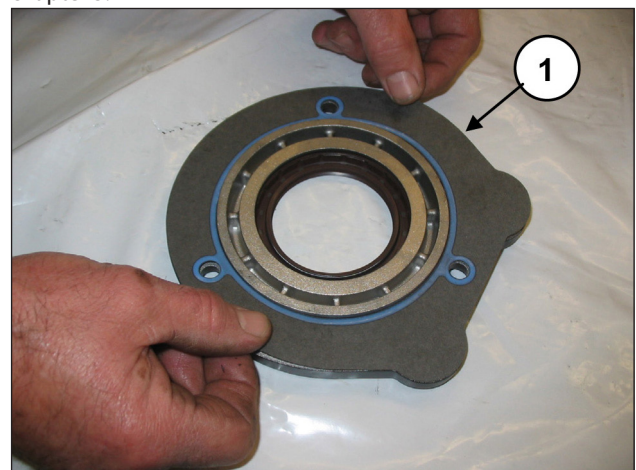
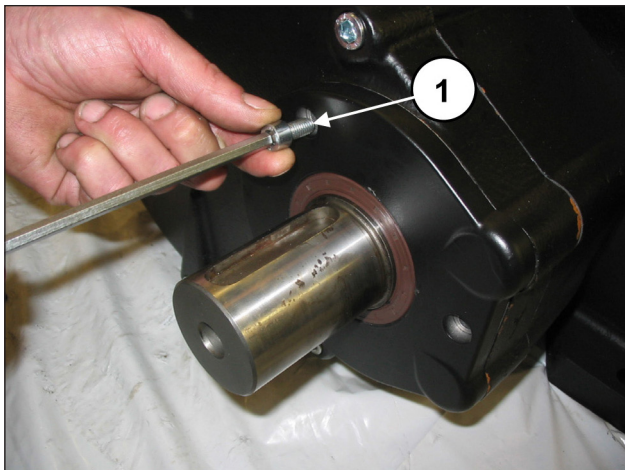

Fig. 72
Fig. 73
Fit the reduction gear flange with its gasket onto the reduction gear box (pos. ①, Fig. 72) and screw it on with 3 M8x18 screws (pos. ①, Fig. 73).